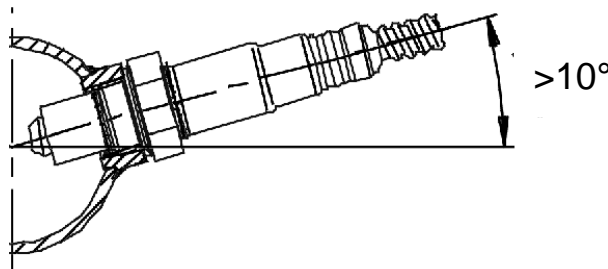

Figure 3. Minimum mounting angle for the UEGO Sensor
4. Mount the UEGO sensor as shown in figure 3.
A weld-in M18 X 1.5 UEGO bung is supplied for sensor installation. Mount the UEGO sensor in the exhaust system at least 18 inches downstream from the exhaust port. If you anticipate high EGT's (over 800C), run a turbocharger, run at high RPM for extended periods of time or plan on running leaded race fuel then you must mount the sensor at least 36 inches or more downstream of the exhaust port as all of these can cause the sensor to overheat. **On turbocharged engines the UEGO sensor must be installed after the turbo charger, if not, the pressure differential will greatly affect the accuracy of the unit.** For accurate readings, the sensor must be mounted before catalytic converters and/or auxiliary air pumps. To prevent collection of liquids between the sensor housing and sensor element during the cold start phase, the installation angle should be inclined at least 10° from horizontal with the electrical connection upwards, see Figure 3.